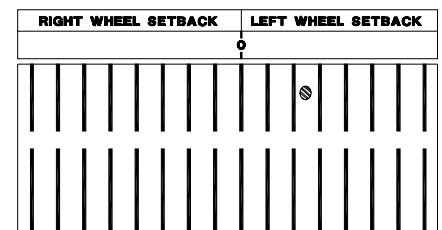

Figure 3
2. Beam image above and right of zero (Figure 3)